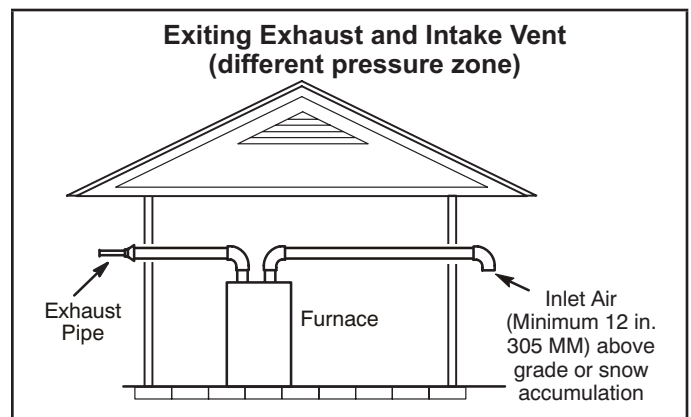

FIGURE 31
- 1 - Intake and exhaust terminations are not required to be in the same pressure zone. You may exit the intake on one side of the structure and the exhaust on another side (FIGURE 31). You may exit the exhaust out the roof and the intake out the side of the structure (FIGURE 32).
- 2 - Use a large flat head screw driver or a 1/2" drive socket extension and remove plug (figure 31) from the cold end header box at the appropriate location on the side of the unit. Install provided 3/4 NPT street elbow fitting into cold end header box. Use Teflon tape or appropriate pipe dope.